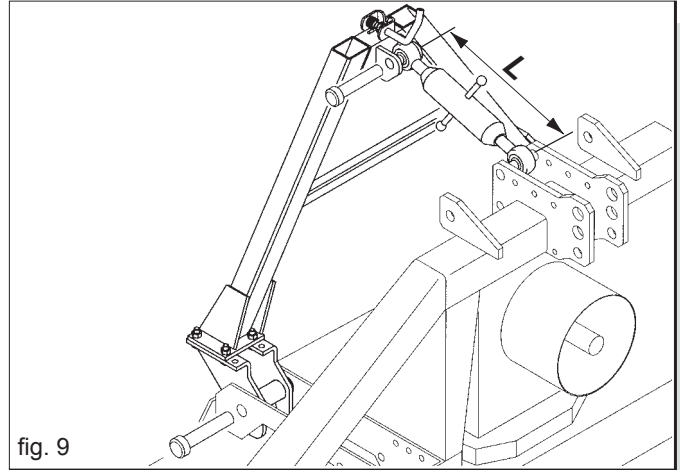

fig. 9
The triangle for quick connecting and disconnecting the seeder and the equipment to which it is coupled can be supplied with the seeder (COMBINE). The triangle is fitted permanently to the equipment (Fig. 9). To ensure correct coupling of the planting unit to the MASCHIO equipment (see table 2) adjust the length (L) of the third-point tie rod as shown in Figure 9.